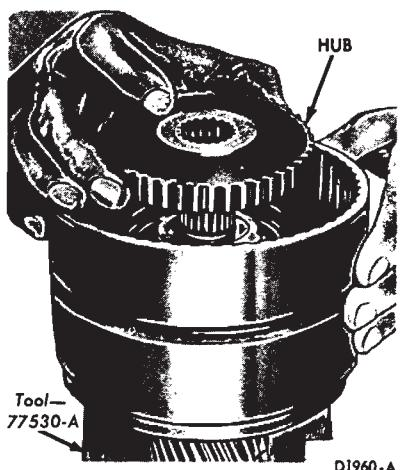

FIG. 37—Installing Clutch Hub
14. Install the clutch hub in the clutch cylinder with the deep counterbore down (Fig. 37). Install the thrust washer on the clutch hub.